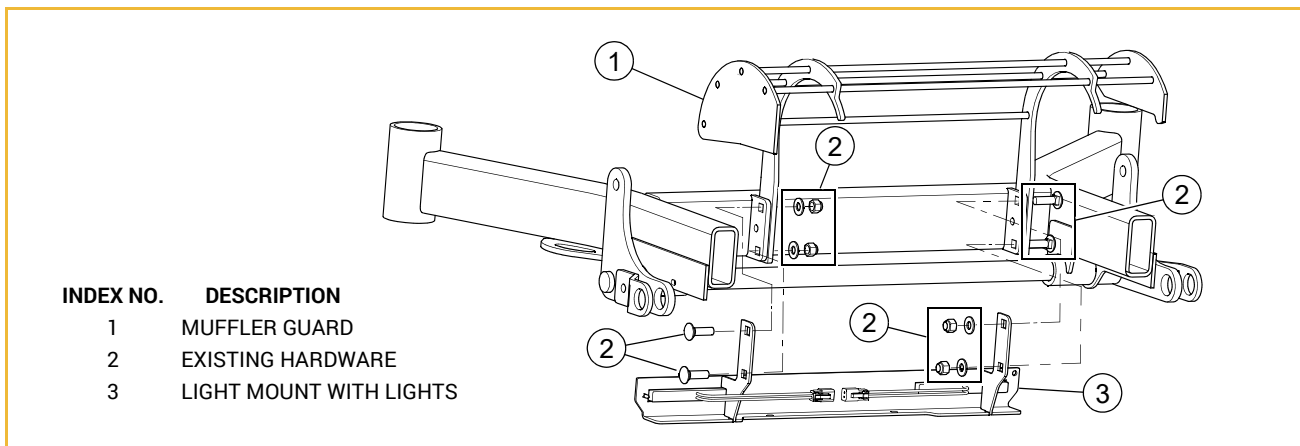

FIG. 2
4. Remove but keep the hardware which attaches the muffler guard to the frame. FIG. 2
5. Mount the light bracket and the muffler guard to the frame using the hardware removed in the previous step. FIG. 2